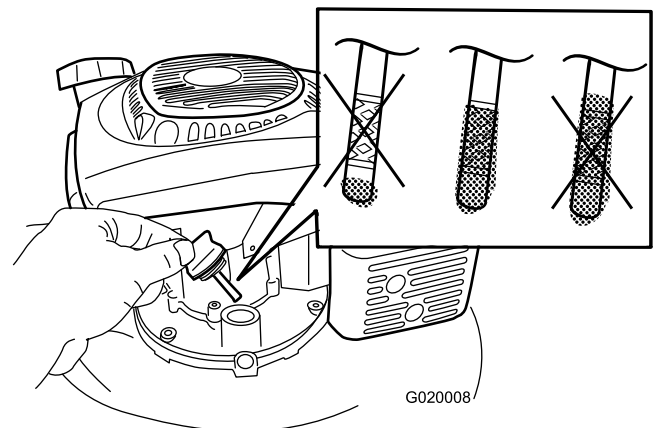

Figure 18
4. **Slowly** pour oil into the oil-fill tube until the oil level reaches the Full line on the dipstick (Figure 18). **Do not overfill.** (Max. fill: 22 oz. (0.65 l), type: 10W-30 or SAE 30 detergent oil with an API service classification of SJ or higher.)